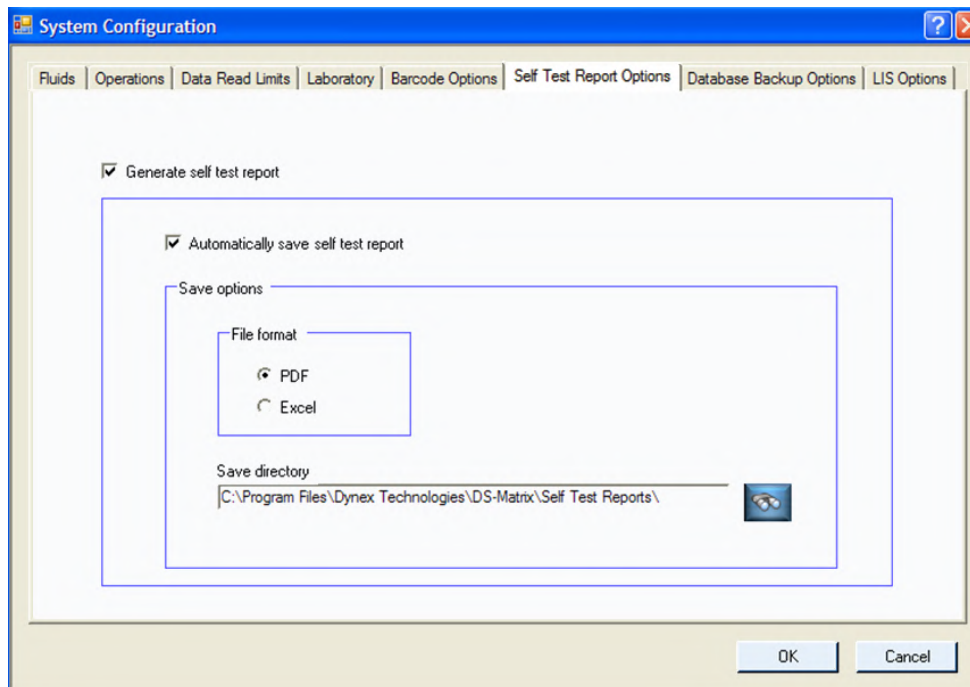

Figure 48: System Configuration – Self Test Report Options Tab
1. Click **System Configuration** on the tools menu to display the *System Configuration* screen (Figure 48).